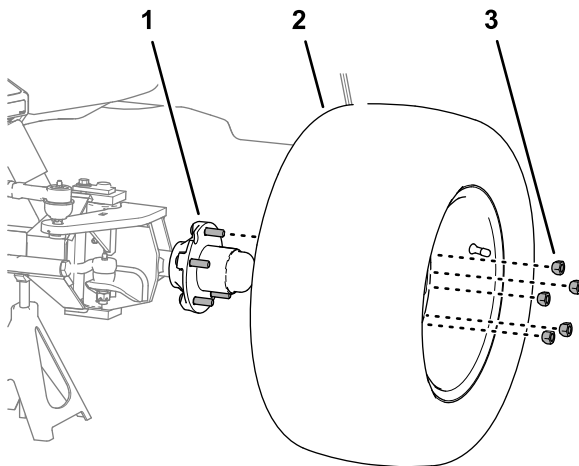

Figure 8
2. Remove the 5 wheel nuts that secure the left tire and wheel to the wheel hub, and remove the wheel from the machine (Figure 8).